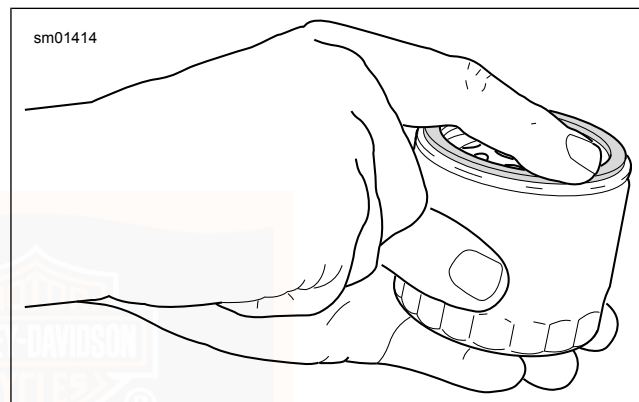

Figure 65. Lubricating New Oil Filter Gasket
7. See Figure 65. Install **new** oil filter.